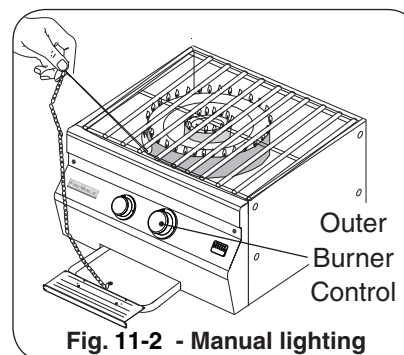

Fig. 11-2 - Manual lighting
**WARNING:** DO NOT put hand directly above the burner when lighting but off to the side as shown (Fig. 11-2).
- 2a. Insert either a burning long-barrel butane lighter, a burning long-stem match, or a burning match held by a wire extension holder through the cooking grids to the desired burner to be lit (Fig. 11-2). **With the flame still next to the burner, depress the corresponding control knob (outer burner-right knob, inner burner-left knob), and while pressing turn it counterclockwise to the HI LIGHT position.** Remove the lighter or match when the burner lights, and release the control knob.